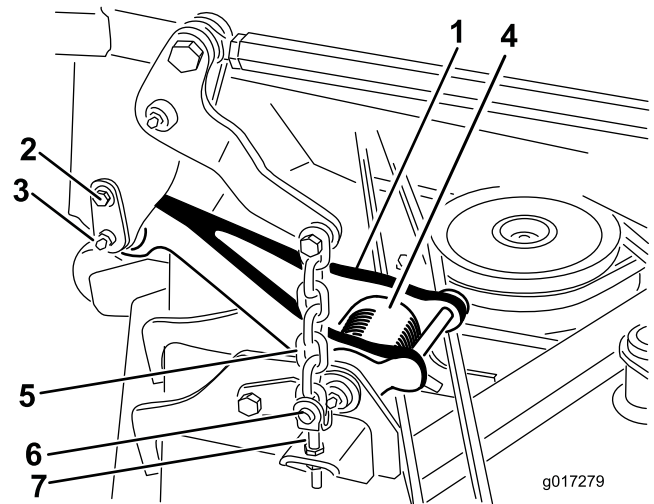

Figure 4
(Figure 4) is reduced, making it much easier to disconnect the pull links from the machine.
2. Disconnect the pull link from each side of the machine (Figure 4).
- A. Remove the shoulder screw that secures the retainer pin to the carrier frame (Figure 4).
- B. Carefully slide the retainer pin from the carrier frame and the pull link (Figure 4).
6. Remove the 4 ring pins and clevis pins that secure the lift chains to the adjustment clevises on the mower (Figure 4).
2. Install the 4 clevis pins and ring pins to secure the cutting unit lift chains to the adjustment clevises on the mower (Figure 4).
5. Align the pull link to the carrier frame and attach the link with the retainer pin (Figure 4). Secure the retainer pin to the frame with the shoulder screw (Figure 4).